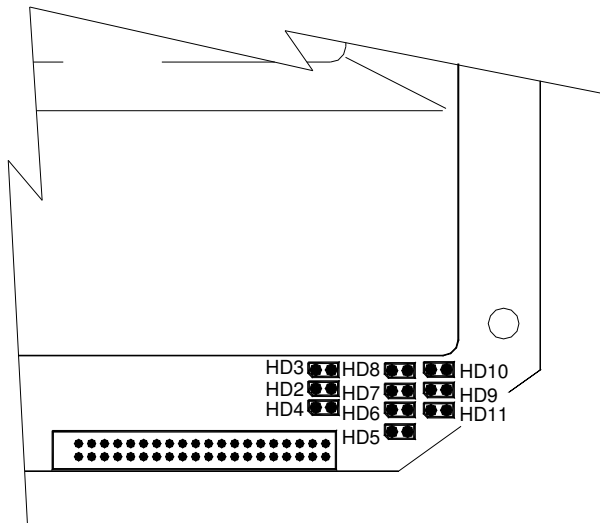

Figure 8 - Option jumper positions
3. Noting the positions, disconnect the keypad cable at the keypad. See figure 8, on Page 18.
2. Offer the Front Casing to the Rear Casing, with the ribbon cable appropriately folded as shown in figure 8; ensure that the cable will not be trapped when the Front Casing is tightened down. Take care that all folds are made, the ribbon cable can lay flat and that the insulation can not become damaged.